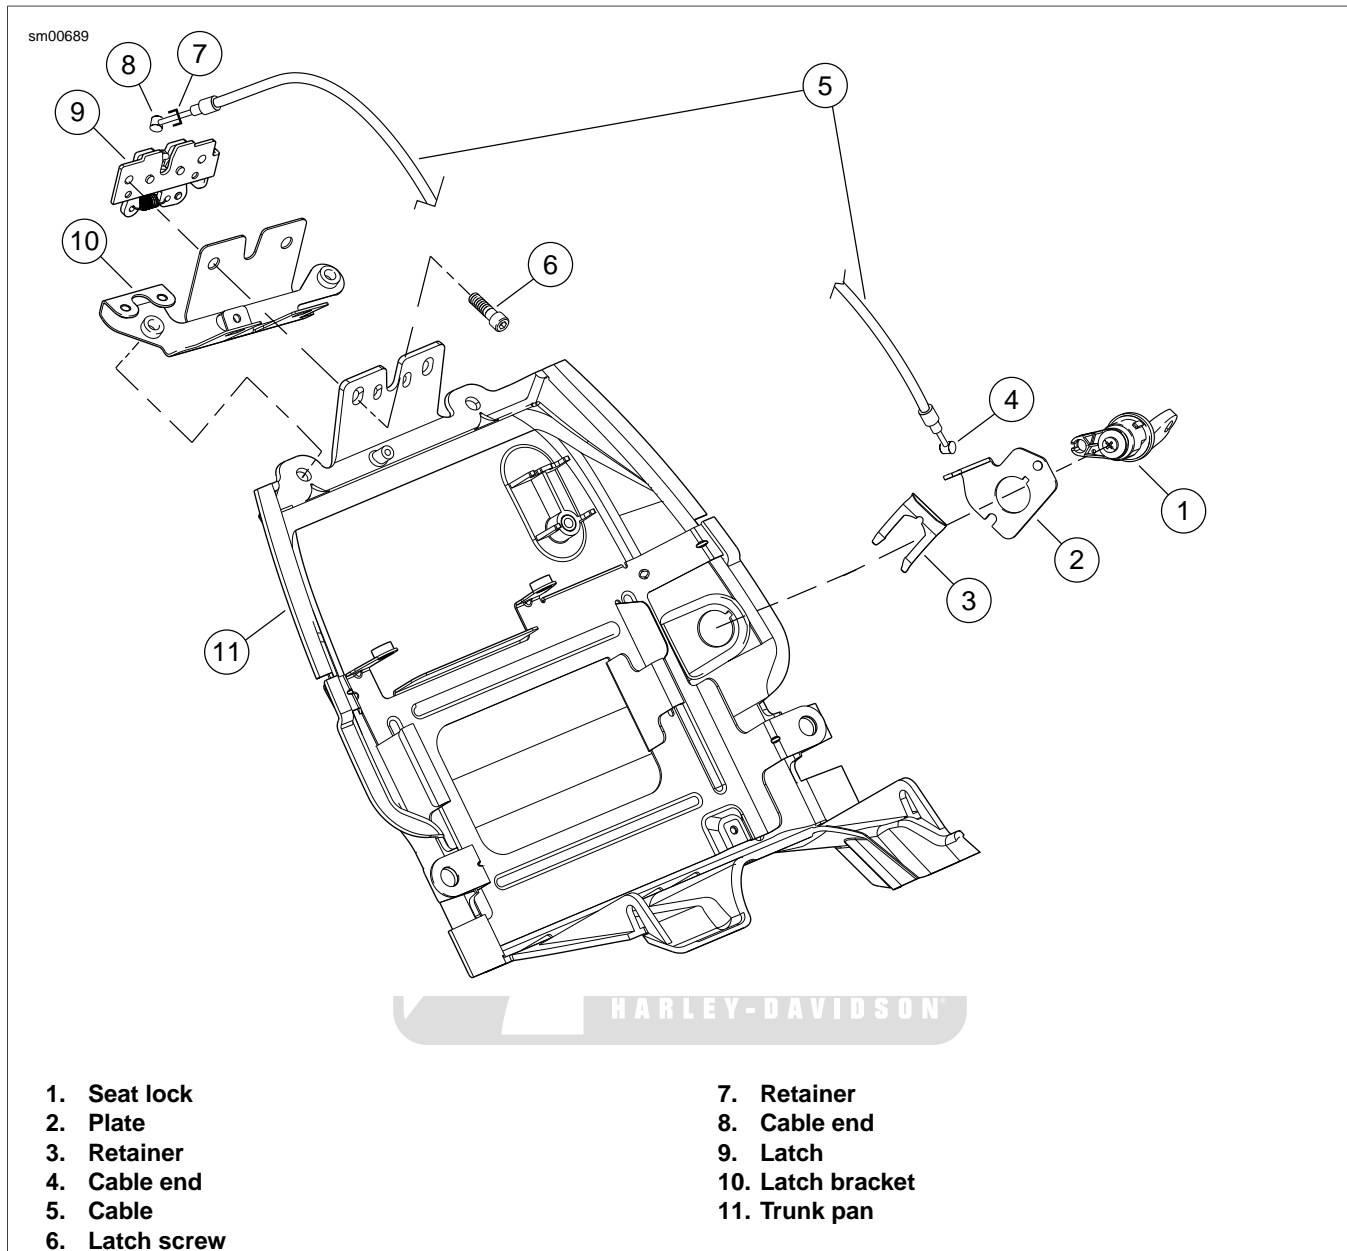

Figure 2-200. Seat Lock Assembly: Lightning
3. See Figure 2-200. Disconnect seat lock cable:
- a. Remove latch (9) from latch bracket (10) by removing two fasteners (6).
- b. Slide retainer (7) away from cable end (8).
- c. Remove cable end (8) and cable (5) from latch.
- a. Remove seat lock retainer (3) from seat lock (1).
- b. Remove seat lock (1) from plate (2) and trunk pan (11).
1. See Figure 2-200. Install cable (5) into plate (2).
2. Install the seat lock (1) into trunk pan (11) and plate (2).